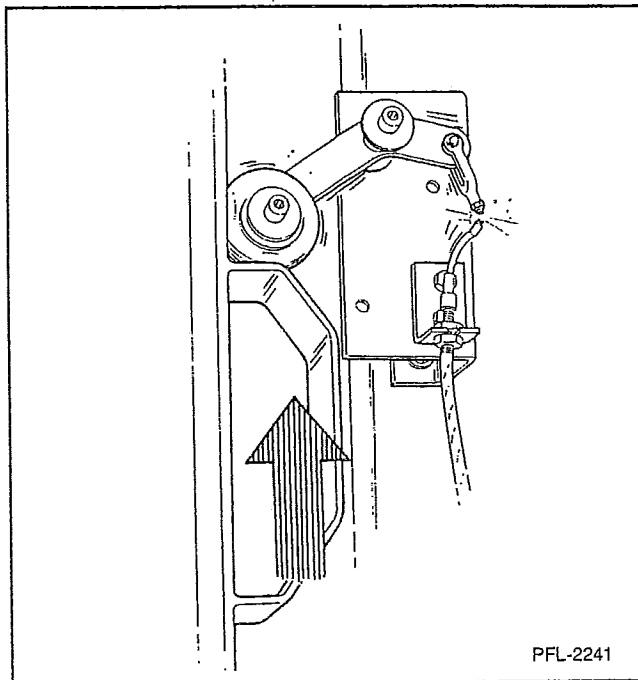

Figure 6
2. Edge of cam must not be past center of wheel toward bracket. See Figure 6.
If cam hits under the wheel not allowing the arm to pivot, the cable will break. See Figure 6.